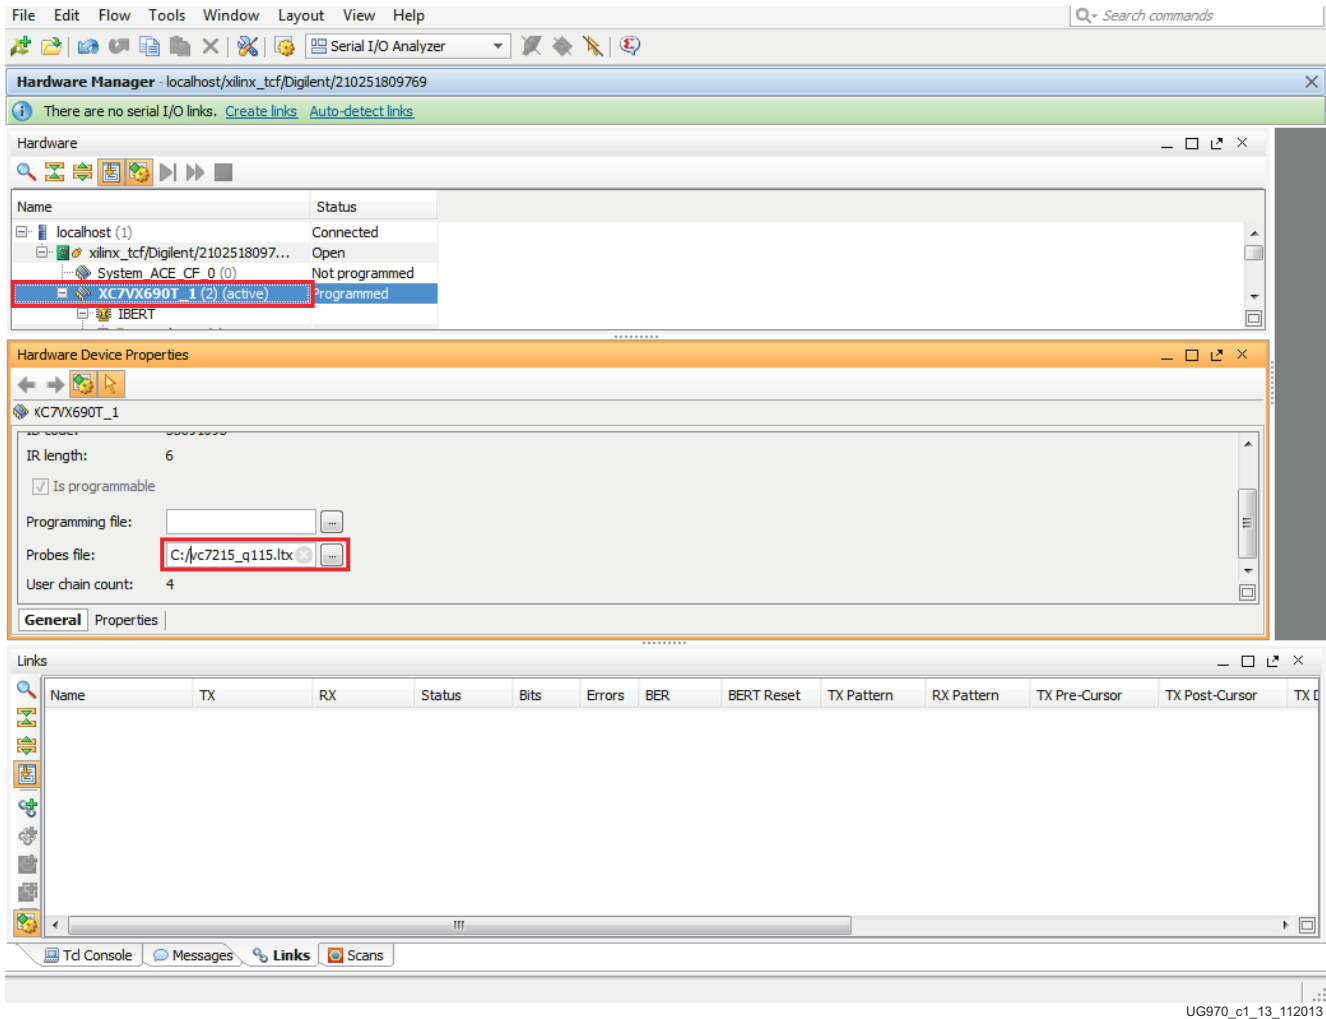

Figure 1-13: Adding the Probes File
1. The Hardware window reports that the System ACE as not programmed and the XC7VX690T device as programmed. Select **XC7VX690T\_1**. In the Hardware Device Properties window, enter the file path to the probes file associated with the Q115 IBERT design `vc7215_Q115_1.ttx`. See Figure 1-13.